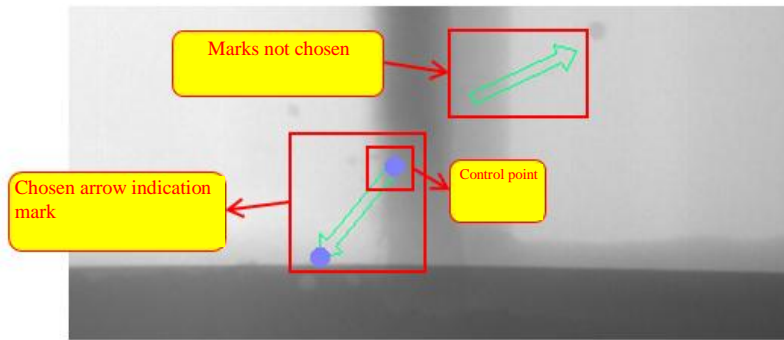

Fig. V-49 Arrow Measurement Mark
1) Click the toolbar icon  or "Tool (T)" ->"Measurement" ->"Arrow" in the menu bar to add.
2) Move the mouse to the position where an arrow indication mark is required, press and hold the left mouse button near this position, drag the mouse for a distance, an arrow mark appears in the image (Fig. V-49).